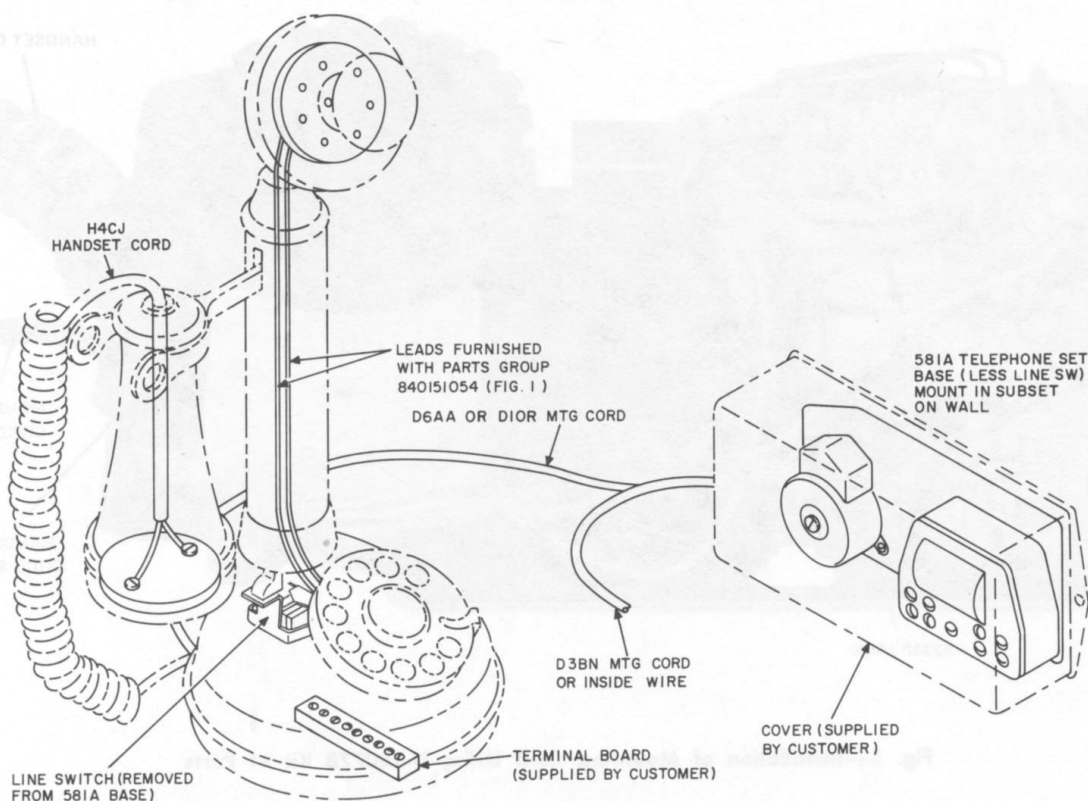

Fig. 6—Typical Installation of Candlestick Type Telephone Set
- (1) Remove line switch from 581A base (current model only).
- (2) Remove square snap-in cover from bottom of candlestick mounting base.
- (3) Mount line switch to customer's set with actuator toward terminal board.
- (4) A typical installation of a candlestick type telephone set is shown in Fig. 6.
- (5) If 581A base (subset) is wall mounted, adjust ringer volume control to "LOUD" before attaching subset to wall.
- (6) See 3.14 for mounting cord installation procedures.